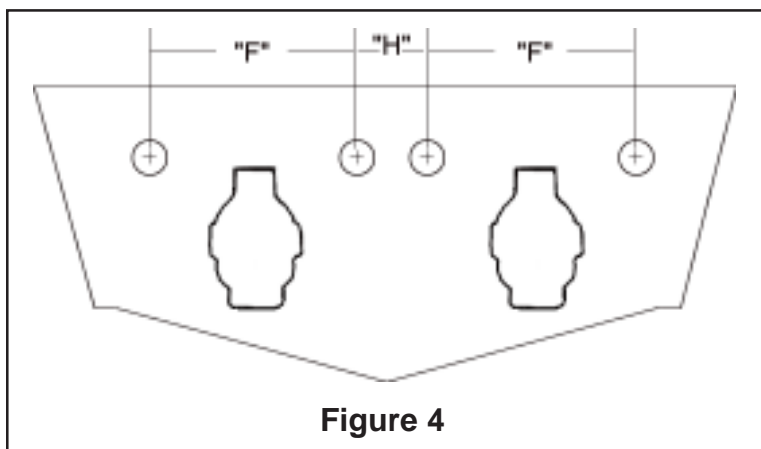

Figure 4
8. Measurement "F" is the distance between the centers of the thru-transom exhaust ports (see Figure 4). For single engines use the starboard side only on the measurement sheet. For tailpipes intended to run straight back from the headers, this measurement should be 28" Check for obstacles along the straight line from the header to the transom holes.
9. Measurement "H" is for twin engine applications only (See Figure 4). Measure the distance between the centers of the two inboard exhaust holes. A minimum of 6-1/4" is recommended for installation of silencers.